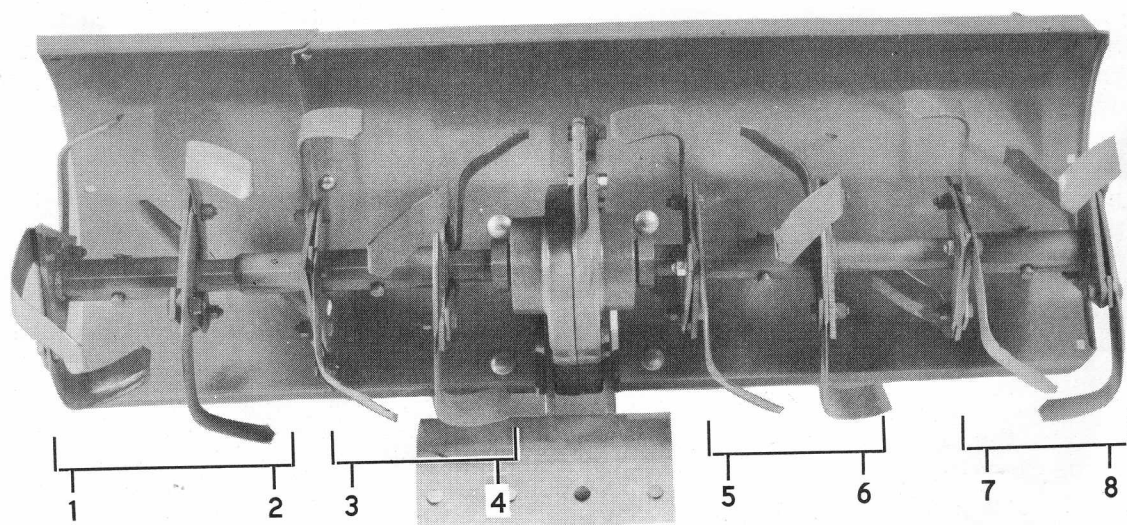
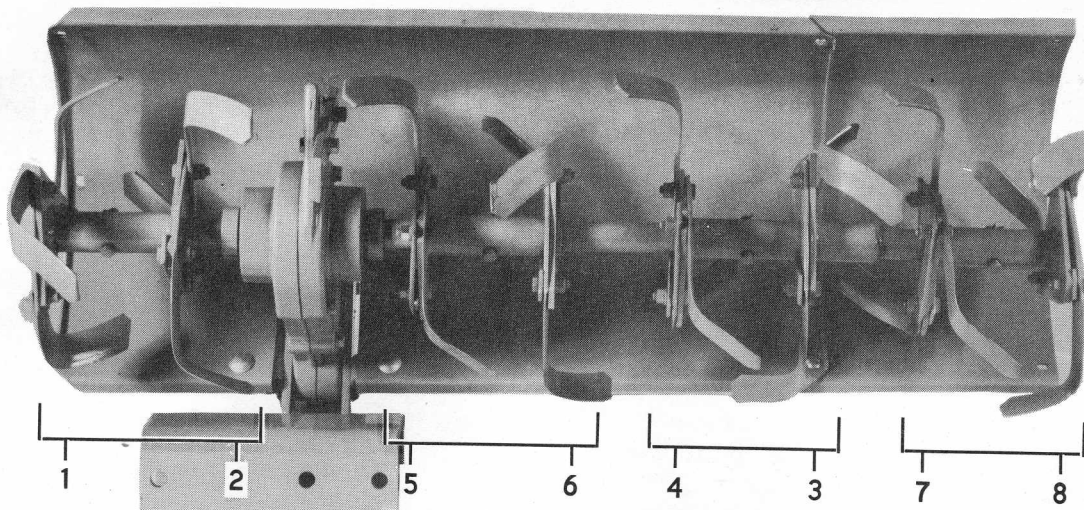
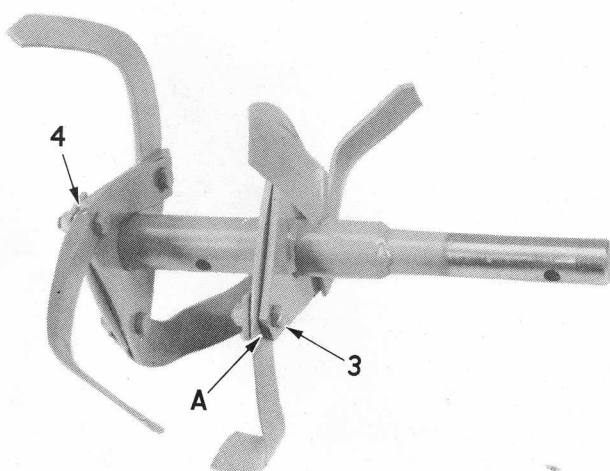
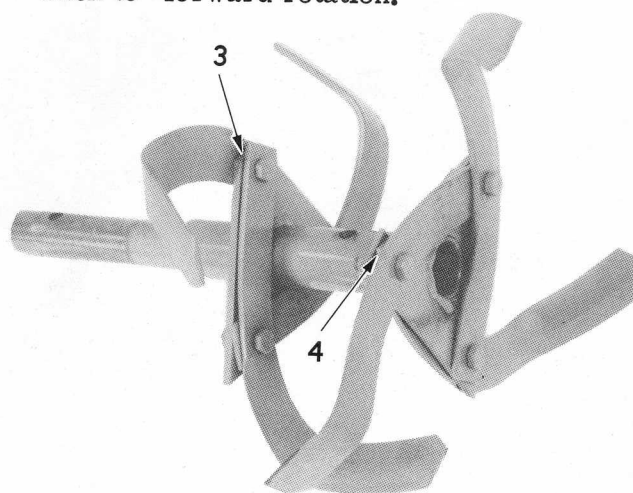

Figure 4. Tine Sections as Assembled at the Factory with Extension on Left Side to Till Out Both Wheel Tracks
Figure 5. Tine Section 3 and 4 Converted to Right Side for Offset Tilling
Figure 6. Sections 3 and 4 Illustrating Tines Converted for Offset Mounting to Right Side of Basic Tiller
Figure 7. Sections 3 and 4 with Tines as Originally Assembled for Mounting on Left Side of the Tiller Chain Case
The extension can be replaced after initial surface tilling has been completed. See Figures 4 and 8 for details on how to remove the left extension assemblies.
6. **Transferable Extension:** The extension shields and tine sections 3 and 4 can be removed, reversed (see Figures 4, 5, 6 and 7) and reinstalled on the right hand side of the tiller. In the normal hitch location the right hand extension arrangement results in an 8 inch extension beyond the right hand side of the tractor to allow tilling under overhanging foliage. Using the alternate hole locations in the hitch results in a total of 11 inches of tiller extension for even
The tiller, including extension, consists of four individual sections, each having six removable tines and two welded triangular mounting plates. One of the corners on each mounting plate has a "flat" (Reference "A", Figure 6) where an identification number is stamped. With the extension on the left side as shipped from the factory the mounting plates from left to right are numbered in sequence "1" through "8" as shown in Figure 4. Operating in this manner results in 41" width and both wheel tracks will be removed if the tiller is centered on the hitch.
center section on the right side as shown in Figure 5 for offset tilling. Remove, reverse and reassemble the tines as illustrated in Figure 6. When returning this section to left side, reassemble the tines as shown in Figure 7.
If fine mulching and side hilling are desired, the tines can be unbolted from their mounting plates and reinstalled so they will cut with reverse rotation. When reversing the tine mountings, interchange the tines between mounting plates "1" and "8" so the end tines will all point inward. For all other mounting plates, arrange the tines for maximum distance between them and each plate should have one "R" with two "L" tines, or two "R" with one "L" do not install three "R's" or three "L's" on the same mounting plate. Use Figure 4 for reference when converting back to "forward rotation."
Figures 4 and 5 illustrate the tiller at full 41" cutting width. Very tough tilling conditions, or narrow crop row widths will often require reducing the tiller width from the maximum 41". Individual tine sections can be removed or shifted, resulting in a variety of combinations.
3. 27" Tilling Width - Remove section "1 and 2" altogether. Convert section "3 and 4" as shown in Figure 5 and relocate to the right side of the chain case using Figure 4 as a guide. This results in 27" of cutting width with tine section "7 and 8" offset.